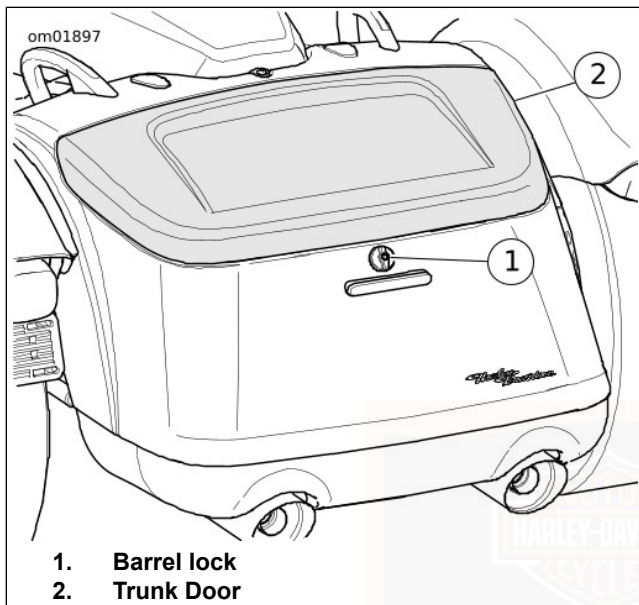

Figure 31. Trunk (typical)
2. See Figure 31. Turn the barrel lock clockwise to unlatch door. Open trunk door.